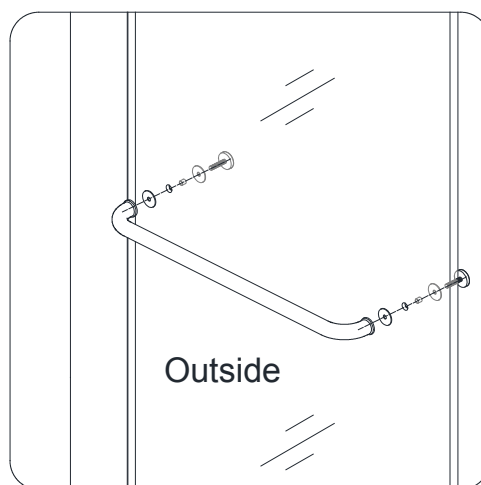

Fig 11
11. Attach the **Towel Bar (#18)** to the outside of the **Stationary Glass (#05)**. (**Fig 11**)